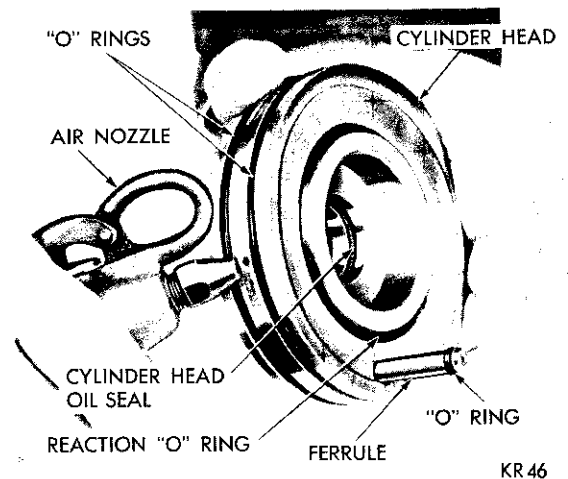

Fig. 12—Removing Reaction Ring Seal From Cylinder Head
(30) Remove the lower reaction "O" ring in the groove in the face of the cylinder head. Apply air pressure into the oil hole located in the groove between the two "O" ring grooves (Fig. 12).